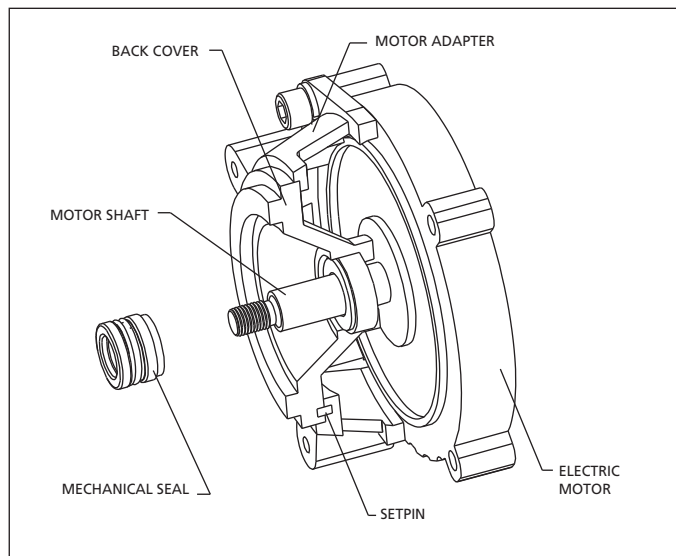

Figure 4 - Seal Removal
3. The seal head (Ref. No.5) can now be pulled from the shaft (see Figure 4).
Seal Assembly Removal and Installation (Figures 4 thru 7)